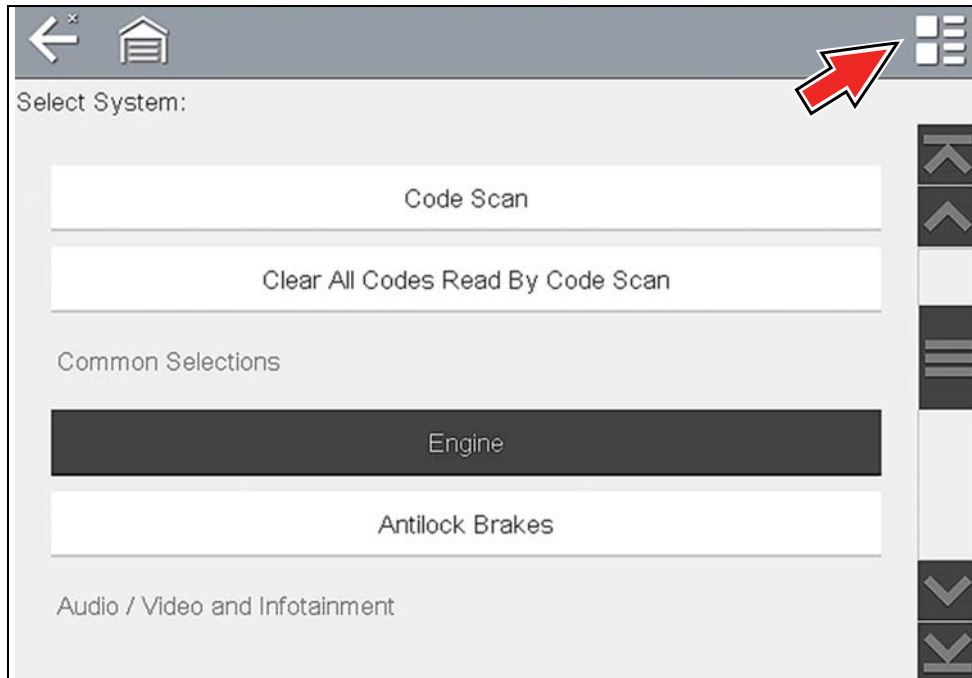
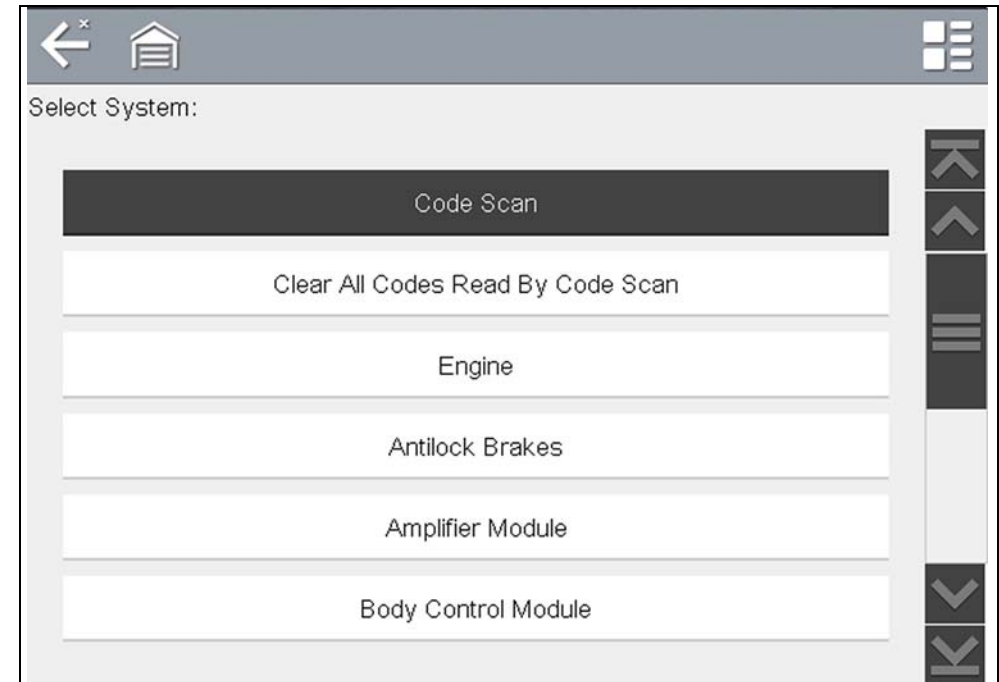

Figure 7-5 Typical systems menu (categorized list view)
Figure 7-6 Typical systems menu (non-categorized list view)
3. A menu of available systems and/or options is displayed. Select a system or option (Figure 7-5) to continue.
Depending on your preference, select the icon (arrow in Figure 7-5) to toggle the display between a categorized (Figure 7-5) and non-categorized (Figure 7-6) list.